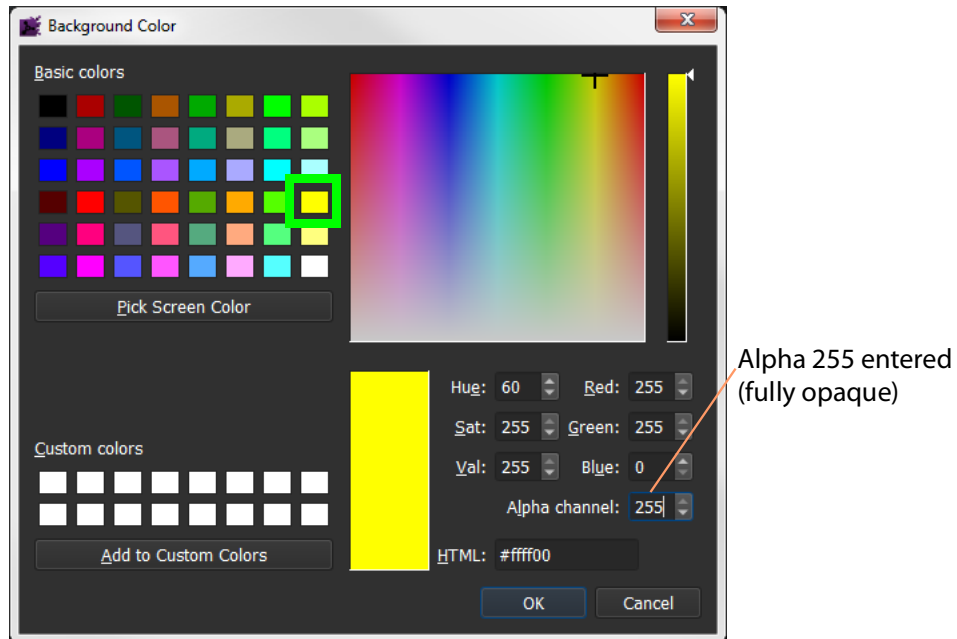

Fig. 6-13: Color Picked
- 5 Click on the  icon to show the **Background Color** dialog. See Figure 6-13 on page 136.